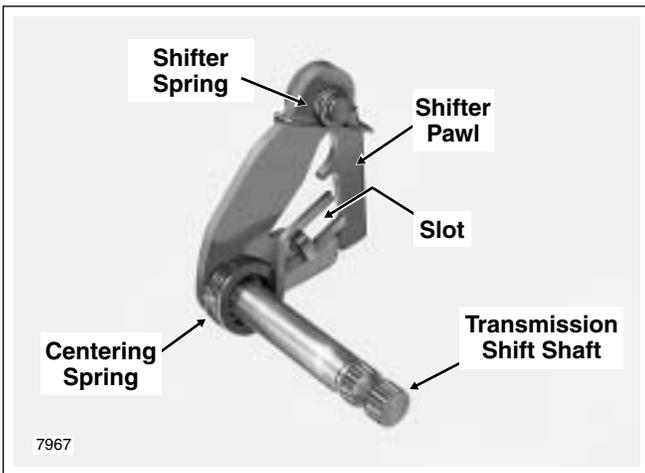

Figure 7-51. Shifter Pawl Assembly
- Using a T50 TORX drive head, turn the centering screw out until it clears the centering spring slot of the shifter pawl assembly. Remove the retaining ring and flat washer from the transmission shift shaft. See Figure 7-51. Push on end of transmission shift shaft to free shifter pawl assembly from transmission case.